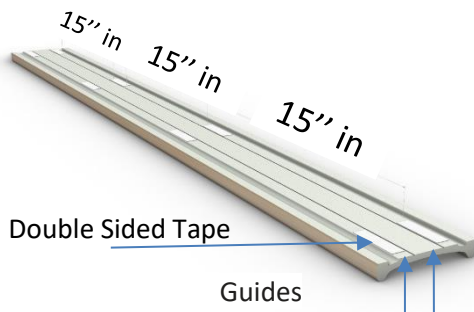

figure 21
- See item 3 Technical drawing table
- a. Apply pieces of Double Sided Tape between 1' to 2' inch long, spaced no more than 15' inches apart. Start applying the Double Sided Tape on the sides of the bar next to the guide, see illustration figure 21.